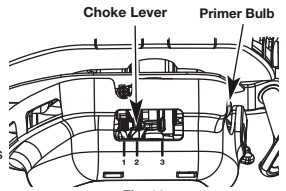

Fig. 11
3. Fully press and release the primer bulb 10 times, slowly. Some amount of fuel should be visible in the primer bulb and fuel lines (Fig. 11). If you can't see fuel in the bulb, press and release the bulb as many times as it takes before you can see fuel in it.
4. Place the choke lever in **Position 1** (Fig. 11).
6. Place the choke lever in **Position 2** (Fig. 11).
9. Place the choke lever in **Position 3** (Fig. 11). The unit is ready for use.